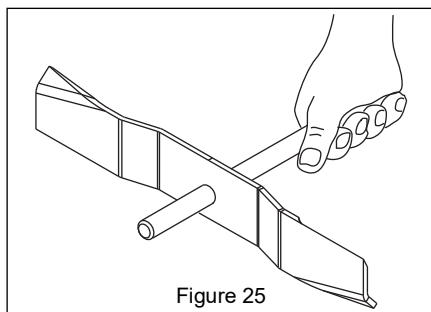

Figure 25
3. Slide an unthreaded bolt through blade center to check balance. Hold the bolt level. If blade does not remain horizontal, sharpen the heavy end until blade is balanced. See Figure 25.